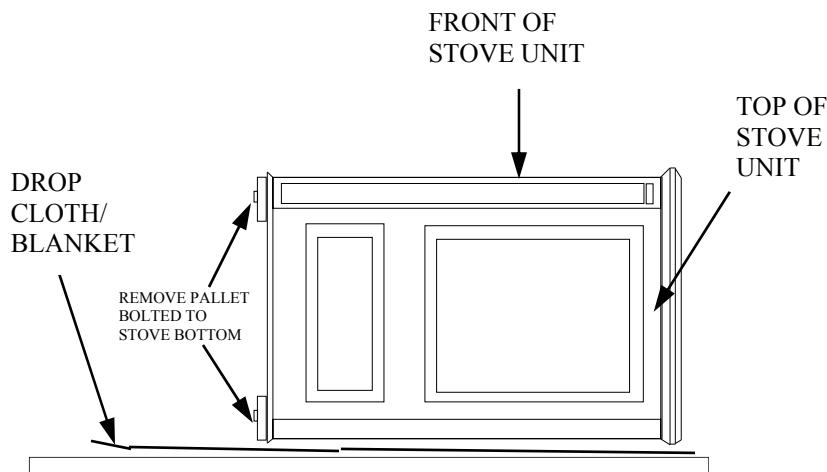

FIGURE 7 - LAYING DOWN STOVE ON SIDE
- (1) - Hardware kit bag with fasteners
6. Carefully lay stove body on back to attach bottom components to stove body (see Figure 7). Rest stove on drop cloth or blanket to avoid scratching stove edges.
7. Remove remaining pallet wood attached to bottom of stove body (see Figure 7). Use an adjustable wrench to remove bolts.